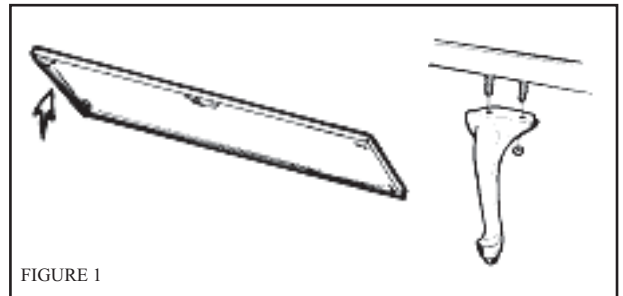

FIGURE 1
RAISE THE FRONT OF THE SEAT AND INSERT TWO (2) HEADLESS BOLTS IN THE TWO HOLES ON THE UNDERSIDE OF THE SEAT PAN IN THE FRONT-MIDDLE, AS ILLUSTRATED IN FIGURE 1. THE SLOTTED END OF THE BOLTS SHOULD POINT OUTWARD. TIGHTEN USING THE FLAT-HEAD SCREWDRIVER.